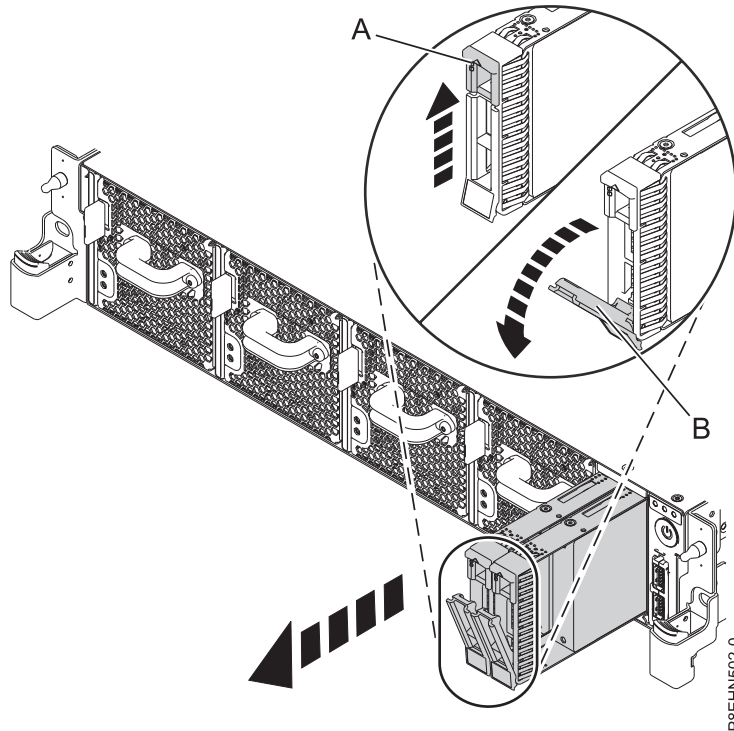

Figure 47. Disk drive lock detail
4. Unlock the drive bay handle **(B)** by pushing the handle release **(A)** up. The handle **(B)** snaps out towards you. If the handle does not snap out all the way, the drive does not slide out of the system. See Figure 47 on page 37.